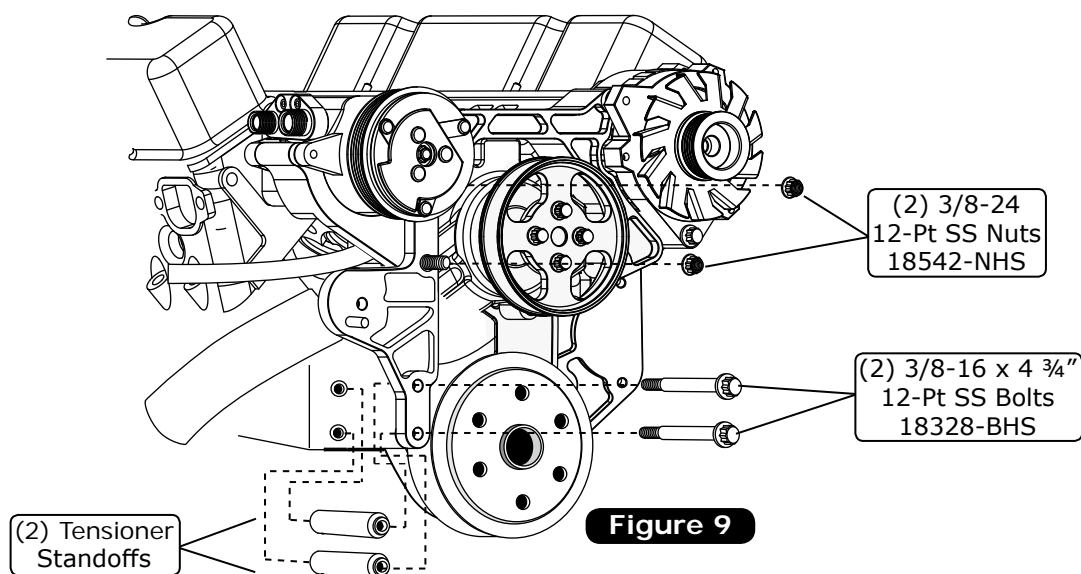

Figure 9
1. Install the belt tensioner bracket onto the passenger side mounting studs (See Figure 9, below).
2. Place (2) tensioner standoffs between the engine block and the belt tensioner bracket as shown in Figure 9, below. Secure the bottom of the belt tensioner bracket using (2) 3/8-16 x 4 3/4" 12-Pt SS bolts. Secure the top of the belt tensioner bracket to the water pump mounting studs using (2) 3/8-24 12-Pt SS nuts. Torque the bolts and nuts to 30 lb ft. **NOTE: The tensioner standoffs fit into the counter bore on the back side of the tensioner bracket.**